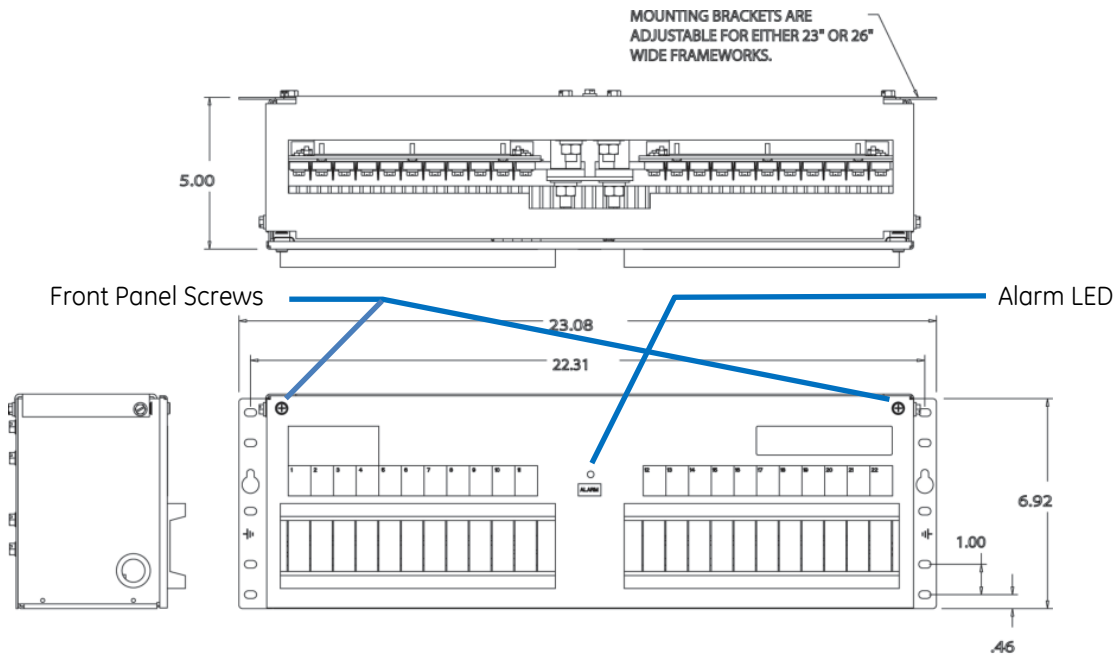

Figure 1 Group 1 - 23" Panel with 477D Alarm Card
1. Lamp Test does not activate 5067 Alarm LED - Figure 1.